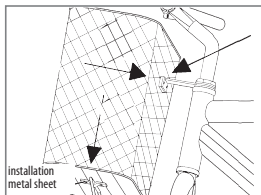

Fig. 77. Basket installation on the support
2. Install the basket on the basket support installed on wheel axle using MS screws, screwing the screws in from the inside of the basket into the installation metal sheet, installed underneath the basket support, Fig. 77.